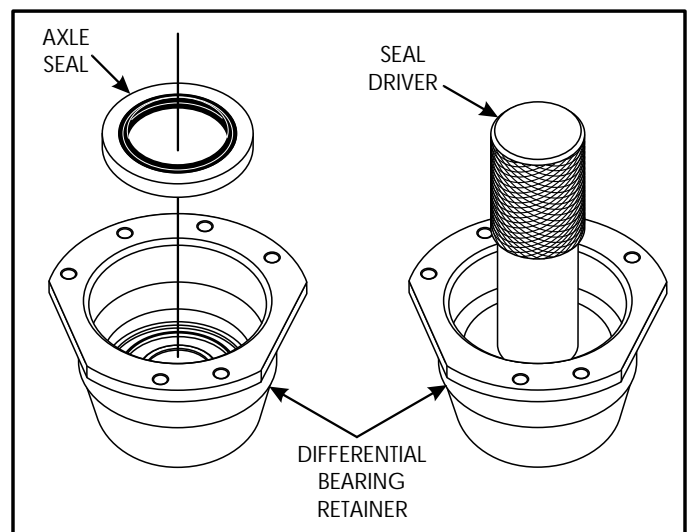

Figure 157
12. Install new axle seal using a seal driver, as shown in Figure 157, and lubricate with small amount of Trans-Jel®.